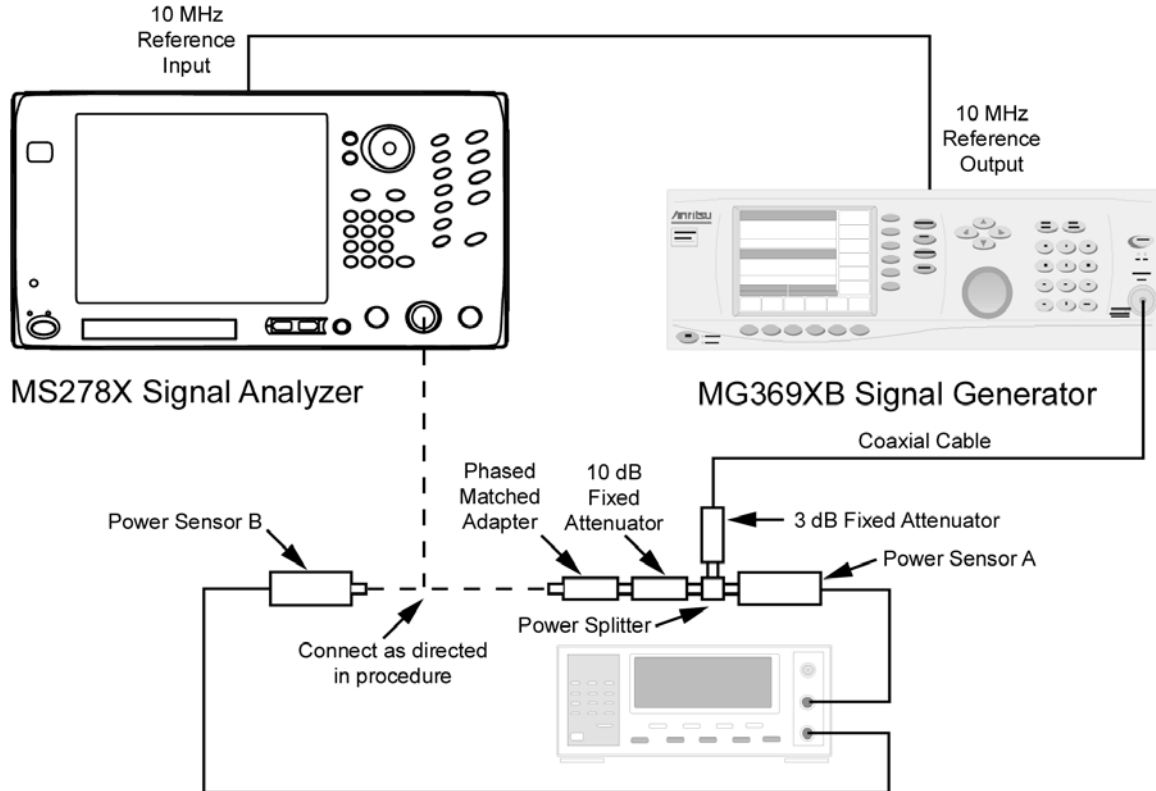

Figure 5-55. Equipment Setup for Frequency Response Test
6. Connect the attenuators to the power splitter as shown in Figure 5-55. Use a cable to link the MG369XB RF output to the 3 dB attenuator. Connect a N-male to N-female Phase Matched adapter to the 10 dB attenuator.